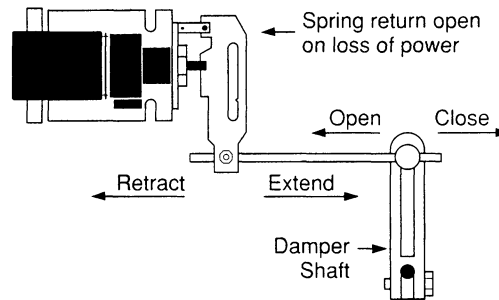
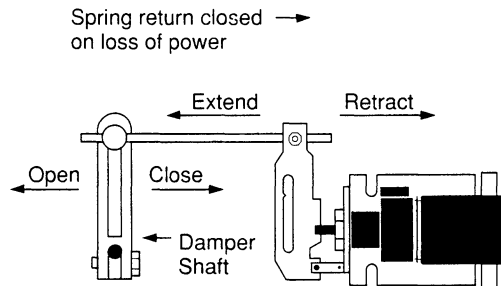

Figure-12 Damper Open When Actuator Retracts (Spring Returns Open on Power Loss).
Figure-13 Dampers Open When Actuator Extends (Spring Returns Closed on Power Loss).
1. Determine from the system requirements if the damper should spring return open (Figure-12) or spring return close (Figure-13) on a power loss to the actuator. Normally the dampers are linked to the full open (heat) position when the actuator is retracted (spring return position on a power loss).